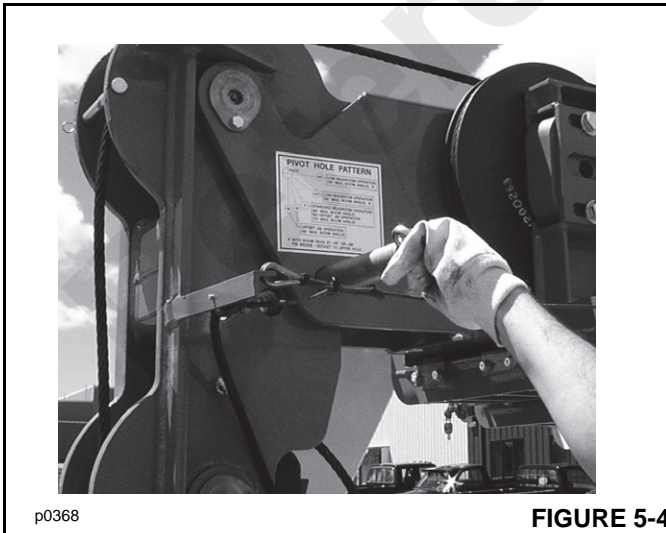

FIGURE 5-4
5. Remove the pivot lock pin (Figure 5-4).